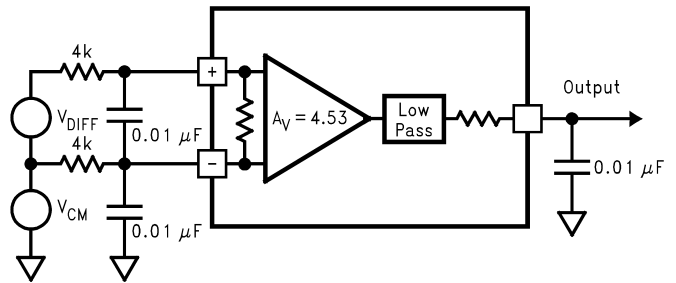

Figure 3. AC Test Circuit
(1) Absolute Maximum Ratings indicate limits beyond which damage to the device may occur.
(2) If Military/Aerospace specified devices are required, please contact the Texas Instruments Sales Office/ Distributors for availability and specifications.
(3) The input voltage must be applied through external 4 k Ω input resistors. See Figure 3. Amplifier operation will be disrupted, but will not be destructive.
(4) ESD Rating is with Human Body Model: 100 pF discharged through a 1500 Ω resistor.